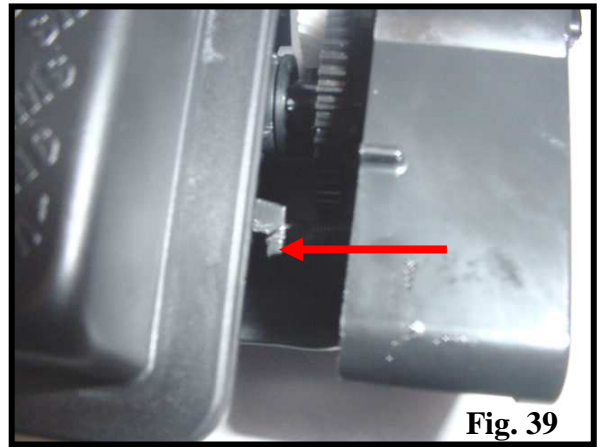

Fig. 39
39. Use a spring hook tool to attach the tension spring on the end plate to the tab on the toner hopper (Fig. 39).